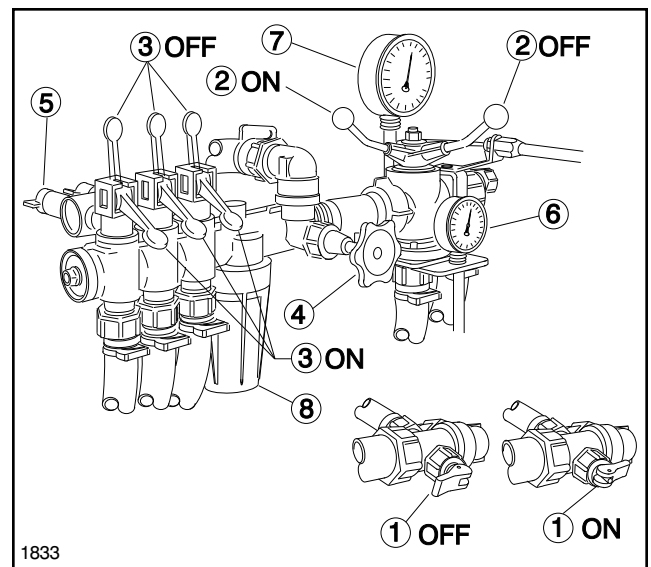

FIG. 2
4. INDIVIDUAL BOOM VALVES: Allows individual selection of Boom sections and controls the flow of spray solution to left, center, and right booms. (See FIG. 2)